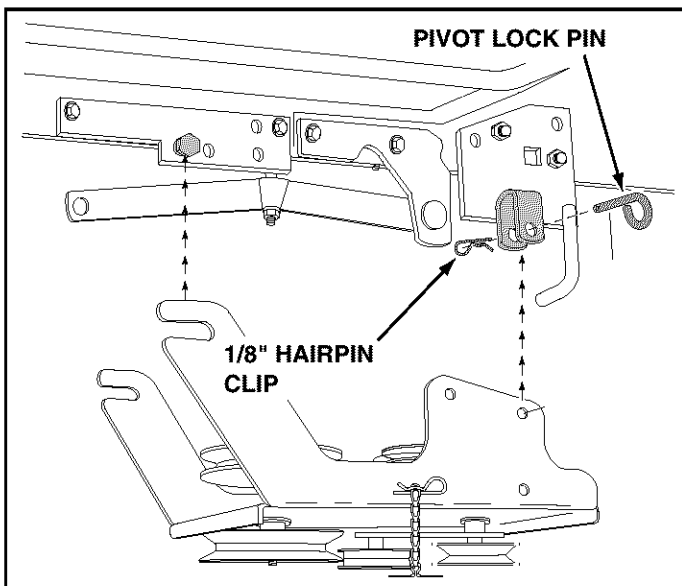

FIGURE 12
- Attach the rear of the clutch/idler assembly to the tractor frame by sliding the notched arms of the assembly onto the shoulder bolts assembled to the frame brackets. Lift the front of the assembly, positioning the upper idler pulley so that it clears the engine pulley. Attach the front of the assembly to the hanger brackets using two pivot lock pins and 1/8" hairpin clips. See figure 12.